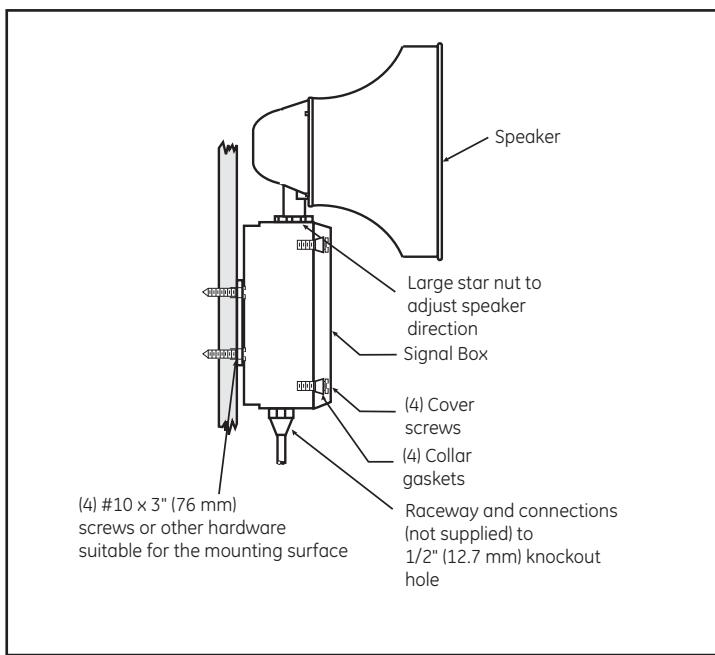

Figure 2. Adaptatone Mounting
1. Mount Adaptatone as shown in Figure 2.
- a. **Flat Surface Mounting.** Secure unit to mounting surface using the (4) mounting holes in the mounting plate on the rear of the box. Use the #10 x 3" (76 mm) wood screws (furnished loose) or other hardware (not supplied) suitable for the mounting surface.
- b. **Rigid Pipe Mounting.** Loosen the (4) cover screws from the signal box and lift off signal box cover.
6. To adjust speaker direction, loosen large star nut (Figure 2) and turn speaker to the approximate desired position. Retighten nut and turn speaker slightly clockwise until locked into place.